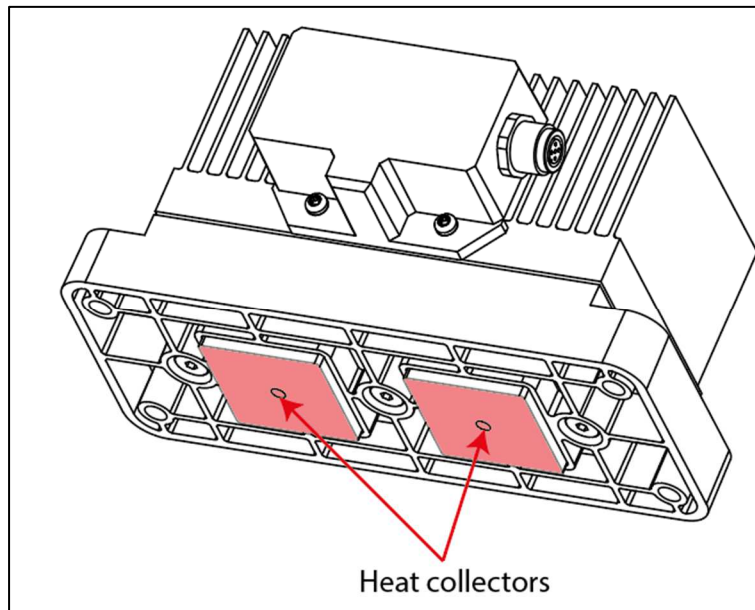
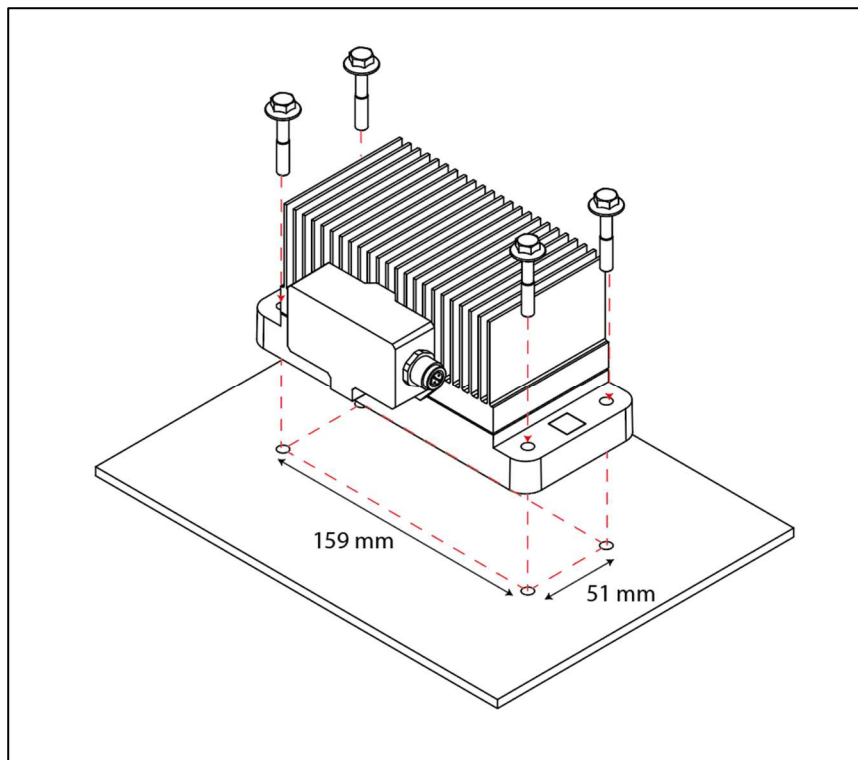
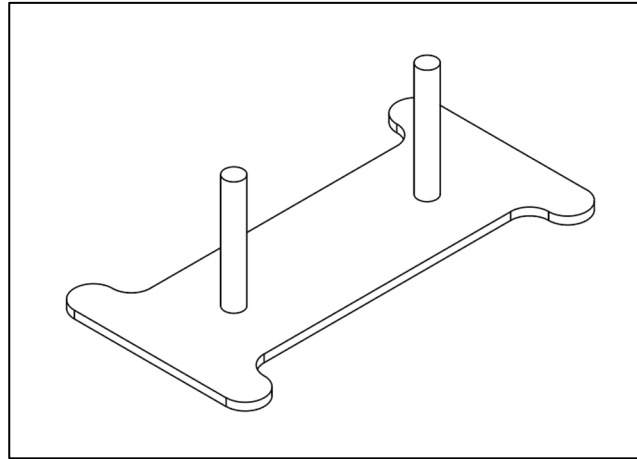

Figure 3.- Bottom view of the InduEye® TG Duo module
Figure 5.- InduEye® TG Duo module optimal mounting procedure
Figure 10.- Weldable mounting kit accessory fixing plate MEP-0008 – Optional accessory
- It is recommended to install the module, if possible, without any accessories and the heat collectors in direct contact with the hot surface to obtain higher thermal efficiency and more electrical energy as shown in Figure 3.
NOTES	<ul style="list-style-type: none"> • Do not install the product in a location with a corrosive atmosphere. If this cannot be avoided, ensure there is adequate ventilation. • When installing the InduEye® TG Duo, make sure that the heat collectors have good contact with the hot surface and there are no gaps present to avoid poor performance of the module (Figure 3).
In order to achieve a higher thermal efficiency and to obtain more electrical energy from the module, **it is recommended to install the module without any accessories as shown in Figure 3 only in hot flat surfaces**, by anchoring the module using the 4 holes available on the plastic base to insert 4 fixing screws as show in Figure 5.
- When installing the InduEye® TG Duo, make sure that the heat collectors have good contact with the hot surface and there are no gaps present to avoid poor performance of the module (Figure 3).
If it is not possible to mount the module as described in section 3.1.1 to obtain a higher thermal and electrical efficiency, use the optional accessory shown in Figure 10 , which allows the heat collectors to be in direct contact with the hot surface. No drilling on the surface is required but welding instead.
- Fixing plate MEP-0008 (AISI304) – 2 units (Figure 10). (See accessories catalogue MUSPAI)
<p style="text-align: center;">  NOTES </p>	<ul style="list-style-type: none"> • Mounting in flat surfaces with this accessory requires arc welding on the surface. Check compatibility between materials. • When installing the InduEye® TG Duo with the mounting accessory (Figure 10), make sure that the heat collectors have good contact with the hot surface and there are no gaps to avoid the poor performance of the module (Figure 3).